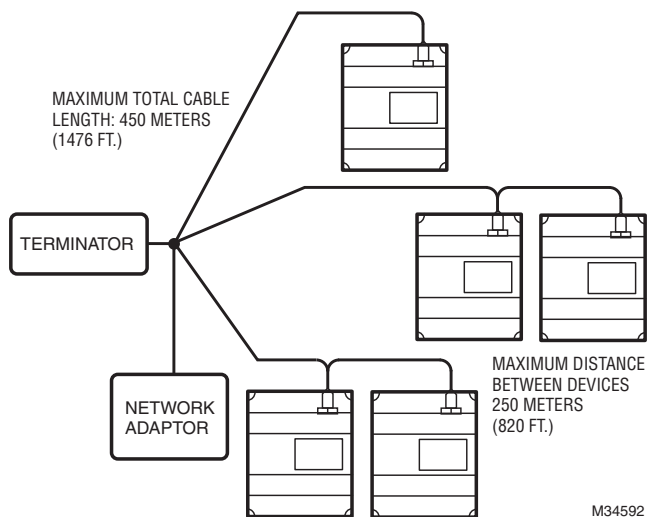

Fig. 27. LonWorks Free Topology.
- b. Free Topology: (1) Terminator, ECHELON Model Number 44100R or equivalent. Please see Figure 27.